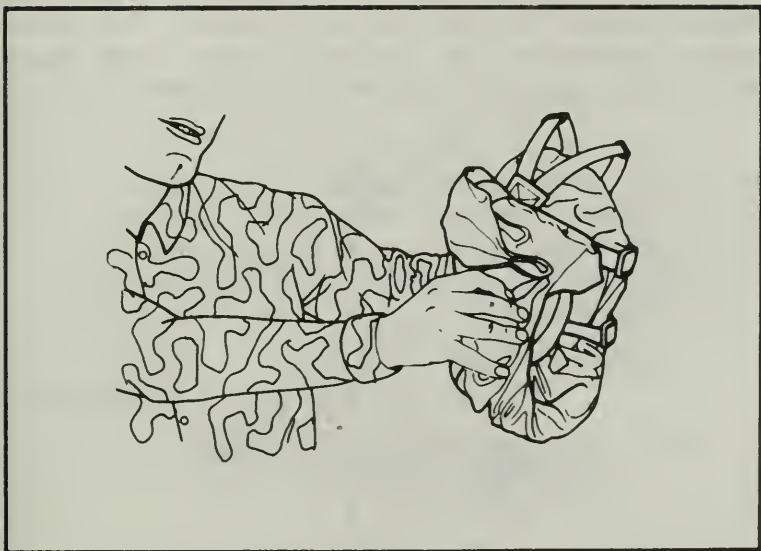

Figure 308. Folding hood.
m. Fold the V upward to cover the eye lenses. Do not let the hood cover the chin opening (Figure 308).